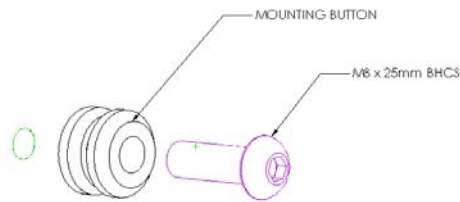
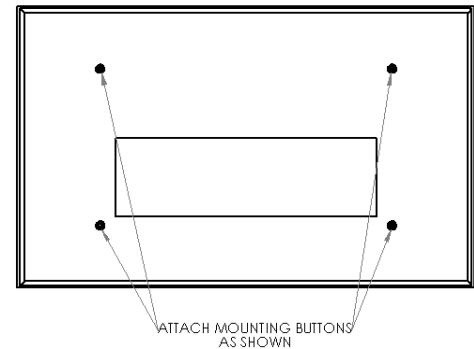

Figure 3
Figure 4
2. Attach mounting buttons to plasma using four M8 x 25 cap screws provided (see Figure 3 & Figure 4).